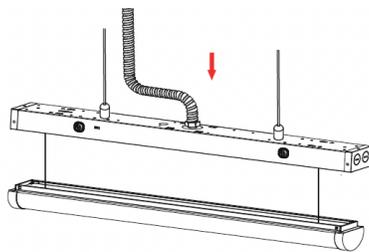

Fig. 10
5. Insert the terminal block and wires into the housing (Fig. 10).